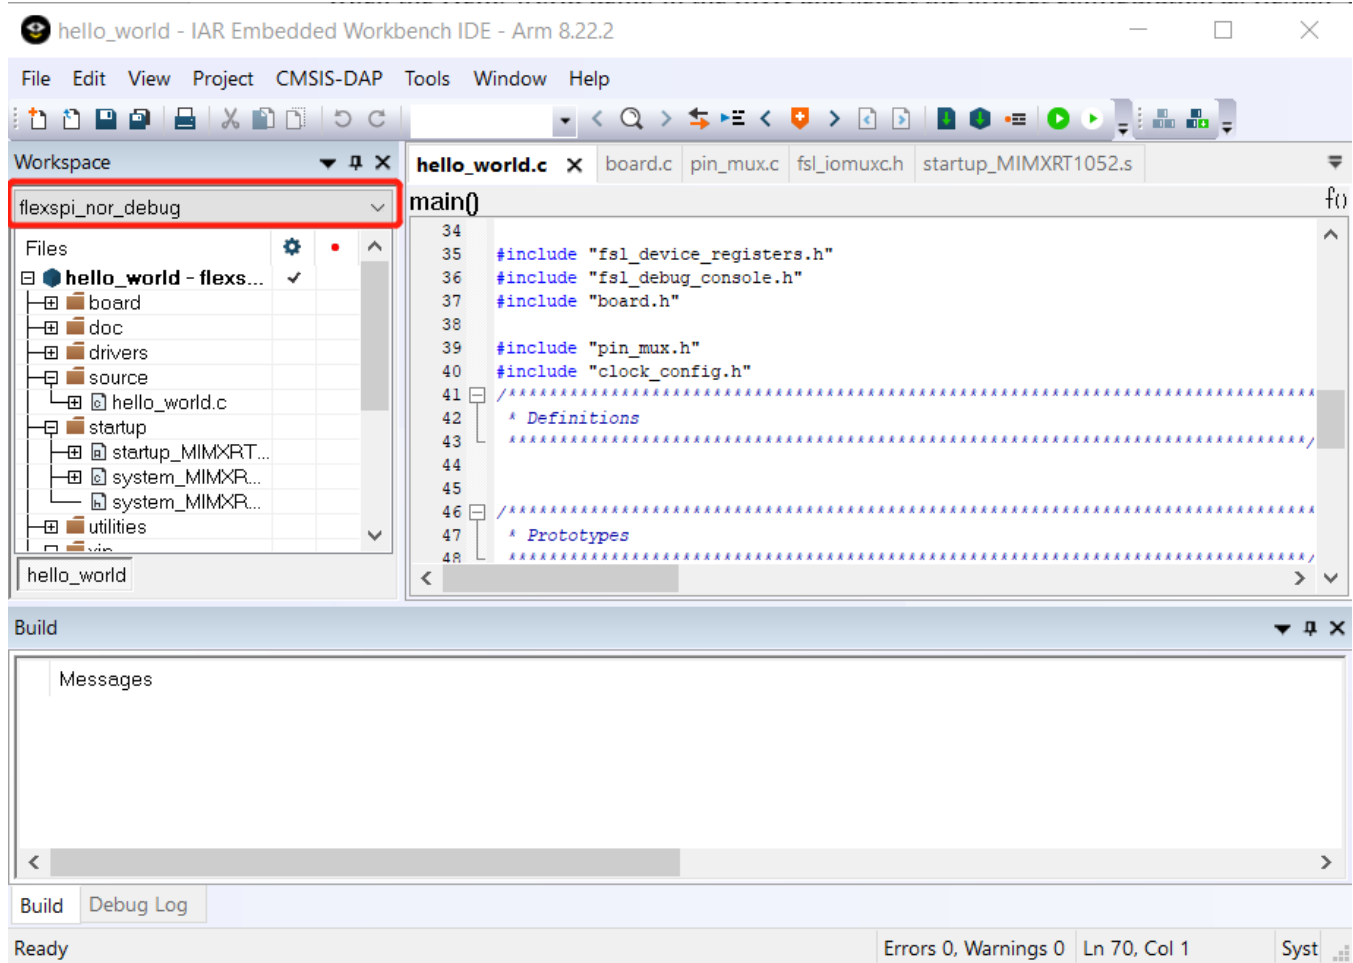

Figure 4. Select the project configuration as flexspi\_nor\_debug
- Open the Hello world demo in the SDK and select the project configuration as flexspi\_nor\_debug.(Figure 4).